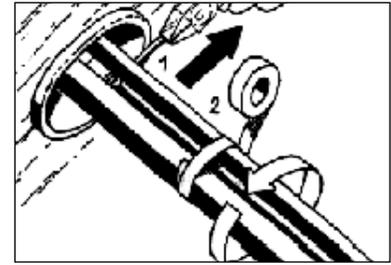

Figure 19
7. If necessary, use a tie wrap to hold the clip in place. Cut off excess tie wrap and position the head between the cables. Tape all cables together near the duct. (Figure 19)